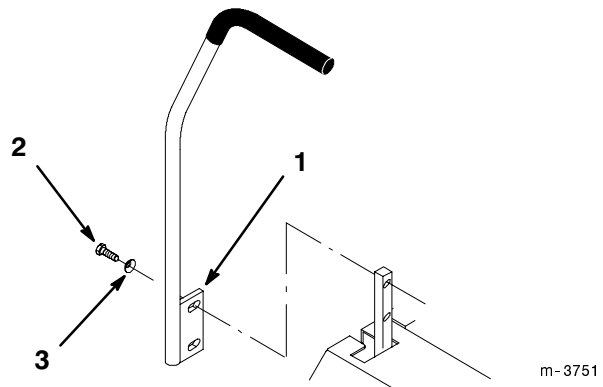

Figure 2
1. Remove the (4) 3/8-16 x 1" (26 mm) bolts and (4) 3/8" spring washers which attach the motion control levers to the control arm shafts for shipping (Fig. 2).
2. Place the levers (with the mounting plate toward the rear) on the outside of the control arm shaft and secure with (4) 3/8-16 x 1" (26 mm) bolts and (4) 3/8" spring washers (Fig. 2).
4. Align the front/rear position of the levers, with each other, in the neutral position. Loosen hardware and adjust by sliding/tilting the lever(s) forward or backward until properly aligned (Fig. 2).